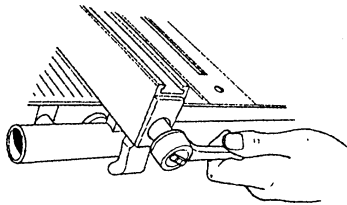

Figure B-92
lock nut (217). When the clamp touches the table tube, loosen the lock nut 1/8 turn or less. See Figure B-92.
- b. If too **loose**, lock the handle, then use a 1/2" socket and ratchet wrench to tighten the lock nut (217). When the clamp touches the table tube, loosen the lock nut 1/8 turn or less. See Figure B-92.